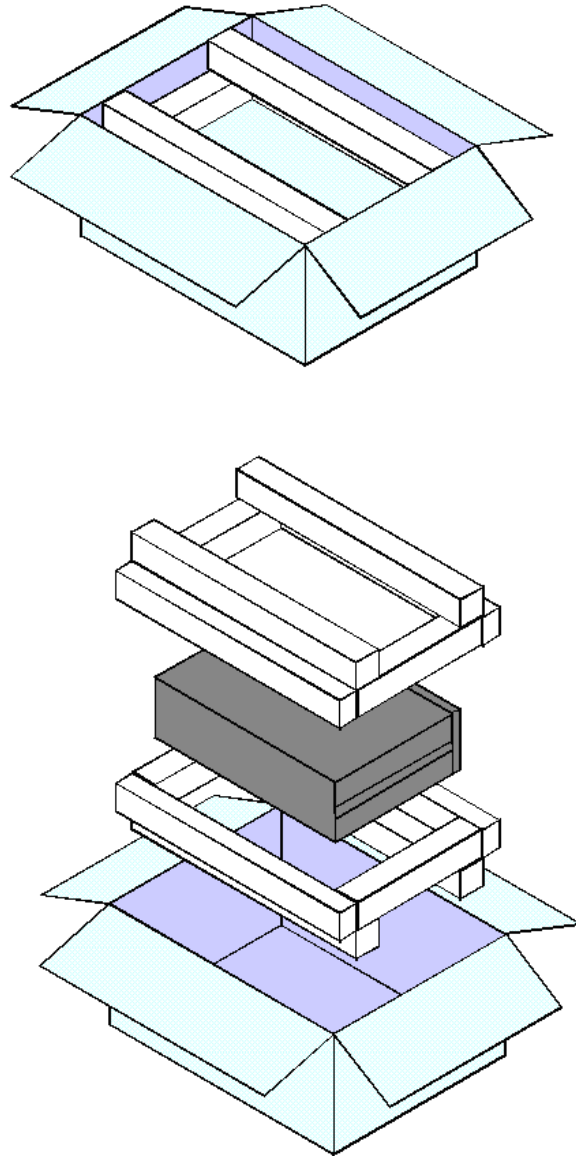

Figure 7-1. Packing the ADTS
4. Insert one foam cradle from the original shipment onto the floor of the box. (The original foam cradles are of the same type of construction and are completely interchangeable.) If the foam cradles are not available, cover the bottom and sides with no less than 3 inches of N-95 foam strips. Arrange the strips in the configuration illustrated in Figure 7-1.